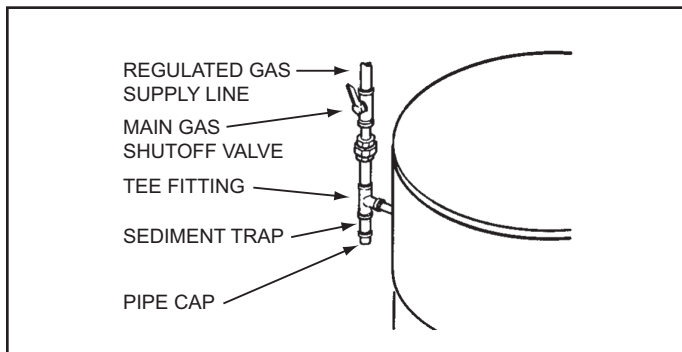

Figure 51
Ensure all gas pipe is clean on the inside before installation. To trap any dirt or foreign material in the gas supply line a sediment trap must be installed as shown in Figure 51. The sediment trap must be readily accessible and not subject to freezing conditions. Install in accordance with the recommendations of the local gas utility company.
7. Install a sediment trap as shown in Figure 51 on page 39.
8. Install a Main Gas Shutoff valve in the supply gas line as shown in Figure 51 on page 39.
1. For test pressures exceeding 1/2 psi (3.45 kPa) disconnect the water heater and its Main Gas Shutoff Valve from the gas supply piping system during testing, see Figure 51 on page 39. The gas supply line must be capped when disconnected from the water heater.